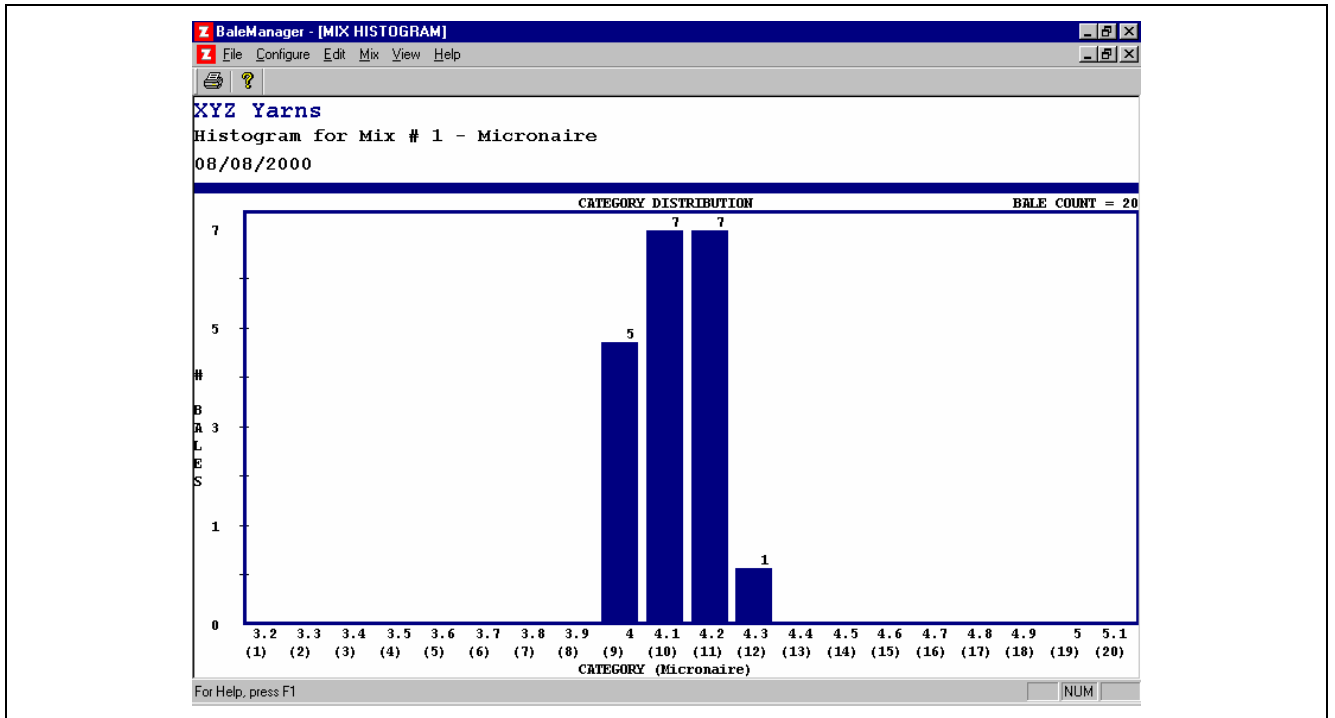

Fig. 6-97 Mix History Histogram, Mix no. 1 - Micronaire
28.2 Select OK and the Micronaire Histogram of Mix no. 1 appears (Fig. 6-97).